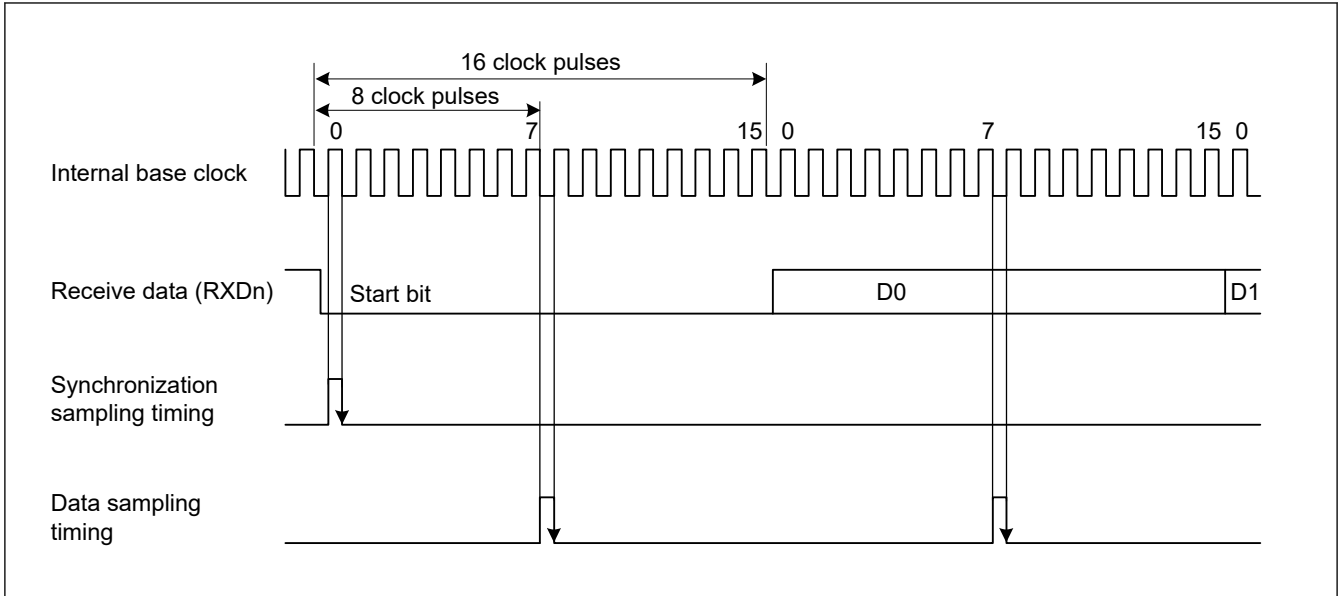

Figure 24.3 Receive data sampling timing in asynchronous mode
Because receive data is sampled on the rising edge of the 8th pulse^{*1} of the base clock, data is latched at the middle of each bit, as shown in Figure 24.3. The reception margin in asynchronous mode is determined by the following formula (1):